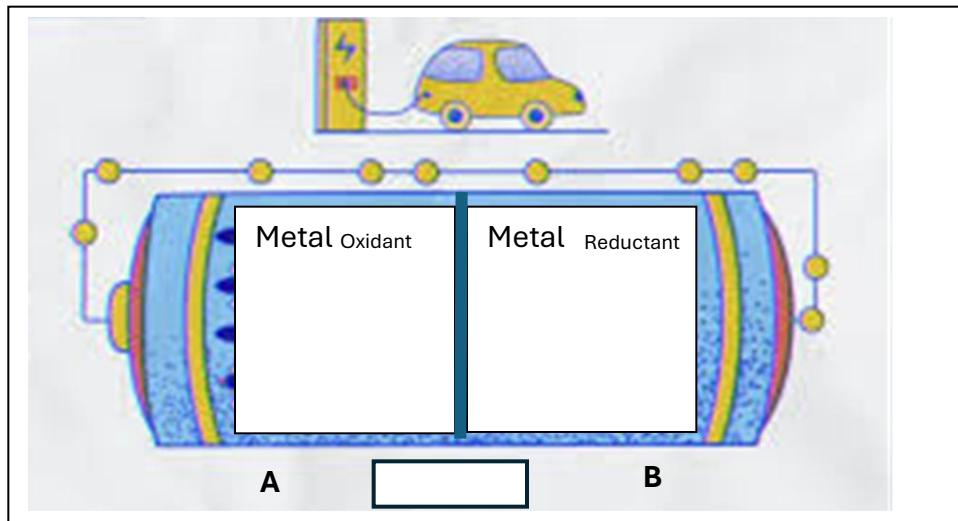

Figure 12 -graphical representation of a battery
4. A simplistic, graphical representation of a battery is shown below in fig 12. Two sections are shown, section A and section B. A wire connects both ends of the battery to allow for electron flow.